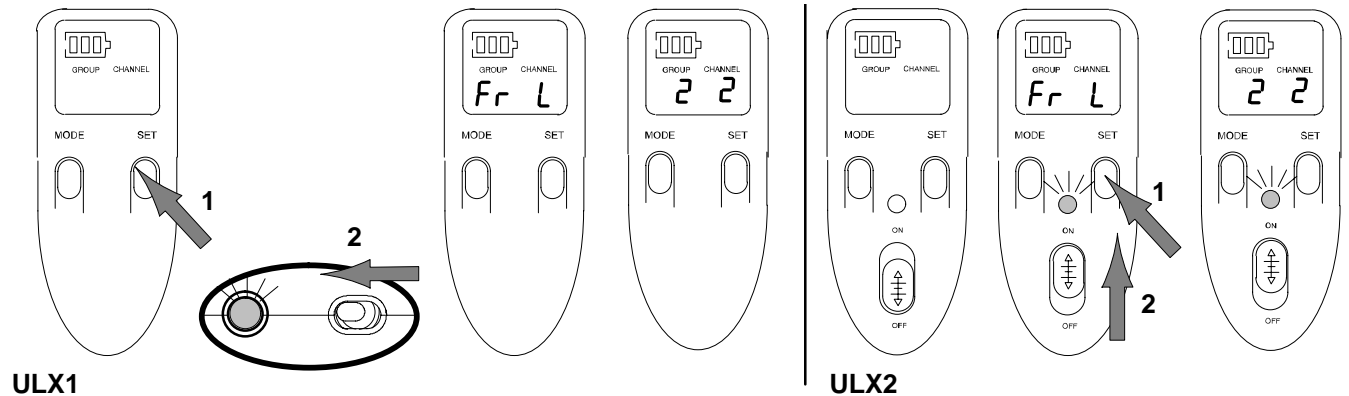

FIGURE 32
3. Slide the power switch back to the ON position. "Fr L" will appear on the transmitter display, indicating that the frequency setting is locked. The locked frequency Group and Channel will then appear. See Figure 32.